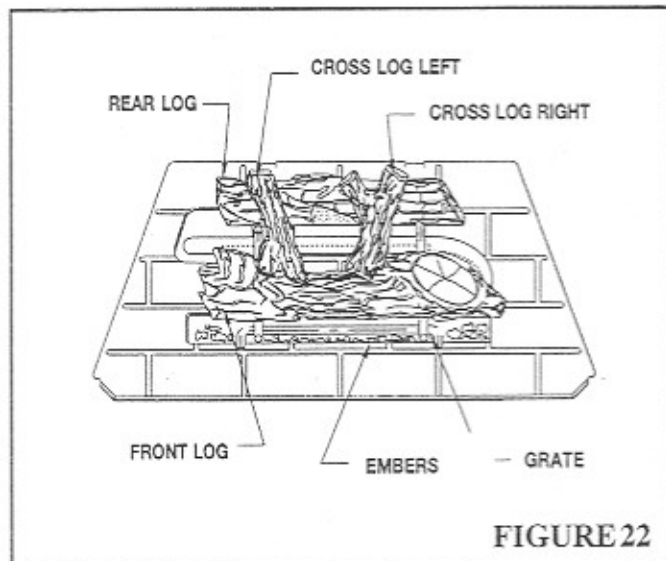

FIGURE 22
STEP 5: Place the glowing embers evenly along the edge of the burner tube in front of the front log, covering the flame holes. Refer to Figure 22.